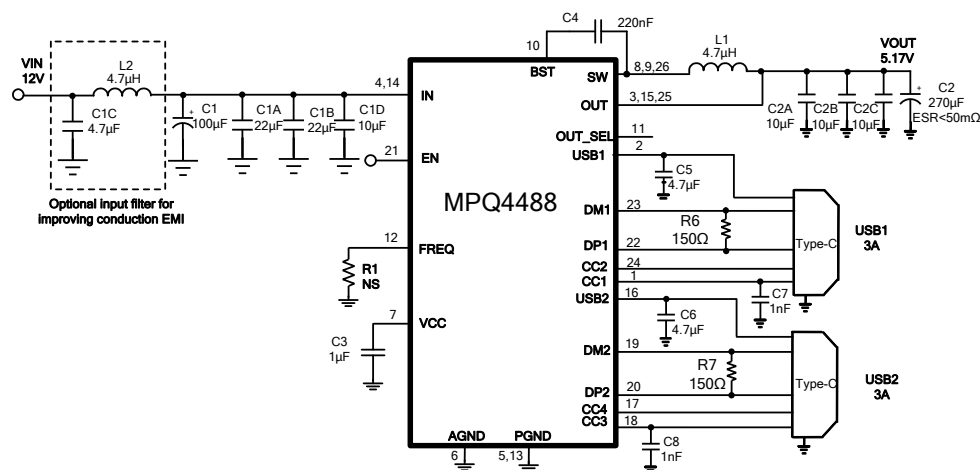
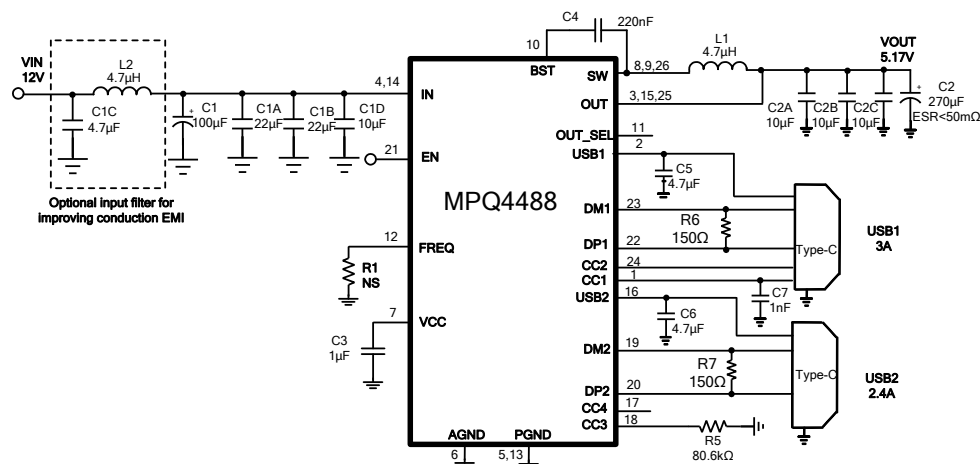

Figure 13: Dual USB Type-C 5V/3A DFP Ports (11)
Figure 15: One Type-C 5V/3A DFP Port, One Type-A 5V/2.4A Port (11)
- ¹⁰⁾ The recommended layout is based on the Typical Application Circuits in Figure 13 to Figure 15.